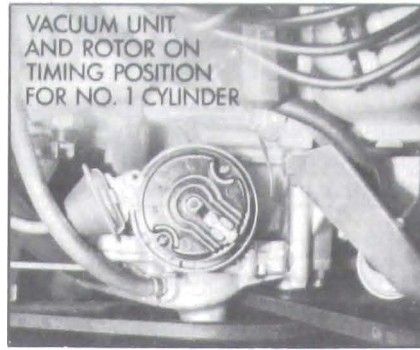

Figure 10-41—Installing Distributor in Engine (V-8)
2. Install distributor in engine with rotor in position to fire No. 1 cylinder and with vacuum control in position to connect vacuum pipe. See Figures 10-41 or 42. Install distributor clamp and bolt
2. Make a mark on distributor base in line with center of rotor. Then carefully note the direction the vacuum unit points in relation to engine so that the distributor can be replaced in the exact position after it is serviced. See Figure 10-41 or 42. CAUTION: If engine is turned over while distributor is out, complete ignition timing procedure must be followed (par. 10-35).